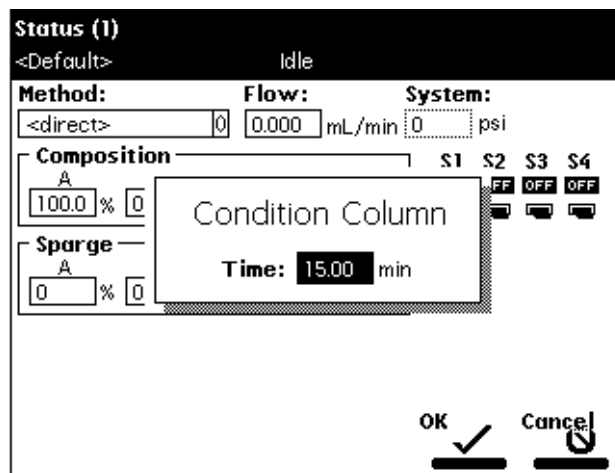

Figure 4-15 Condition Column Dialog Box
4. Select **Condition Column**, then press **Enter**. The Condition Column dialog box appears (see Figure 4-15).